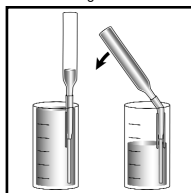

Figure 2
5. Place the VACUette in the dilutor snapper cup and snap the tip (fig 2). The ampoule will fill leaving a bubble to facilitate mixing.